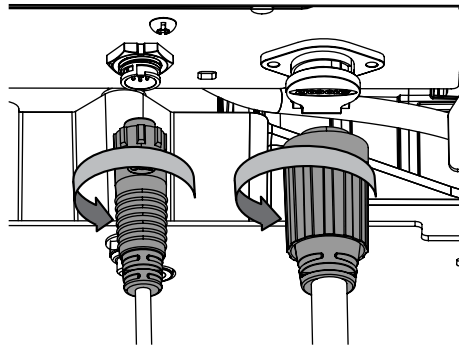

Figure 4-4
4. Disconnect the deck motor(s) from the adapters on the underside of the rider. Rotate the connectors 1/4-turn counterclockwise and pull down. See Figure 4-4.